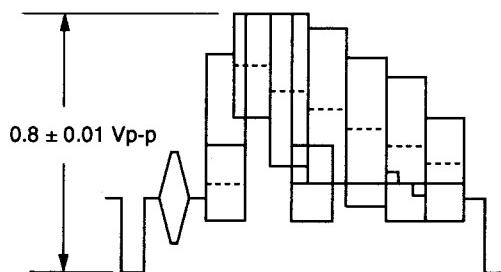

Fig. 5-2-1
- Adjust VR1 so that the Video signal level becomes 0.8 ± 0.01 Vp-p as shown in the Fig. 5-2-1.